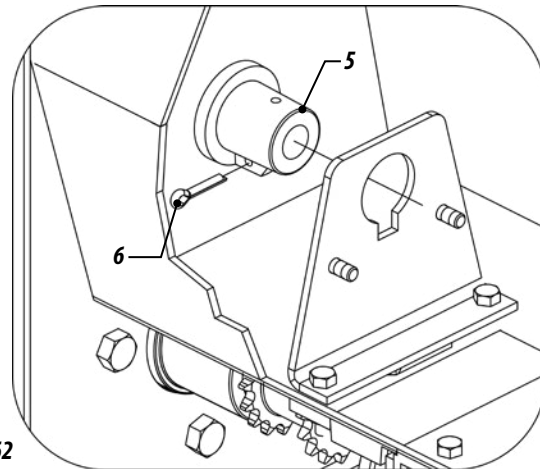

Figure 62
- 3- Fit the bearing (5) to the support and lock it with the cotter pin (6), Figure 62;